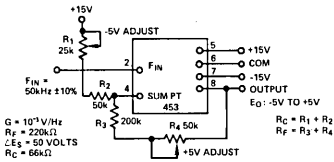

Figure 8. Application of Model 453 in FM Demodulation
**Procedure for Scale Expansion:** The following procedure incorporates both gain and output offset adjustments to achieve scale expansion. An example is illustrated in Figure 8 for an FM signal with a 50kHz carrier frequency and  $\pm 5\text{kHz}$  modulating signal.